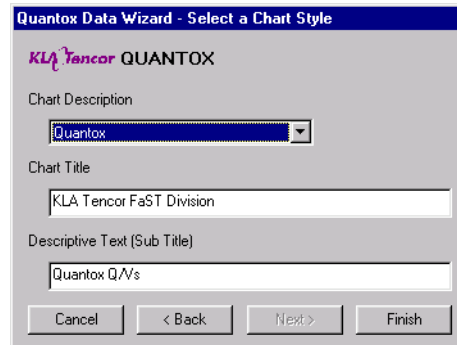

Figure 6-19: Select A Chart Style
6. When data selection is complete, click Next to open the Select a Chart Style dialog box (Figure 6-19 on page 6-23).
4. When finished selecting the Chart Options, click Next to open the Select a Chart Style window (Figure 6-19 on page 6-23).
If Parameters are not selected, when the Finish button is clicked (Figure 6-19), the system issues an error message and closes Data Wizard.
3. When complete, click Next to open the Select a Chart Style window (Figure 6-19).
After clicking Next from any of the Chart Option dialog boxes, the Chart Style dialog box opens (Figure 6-19).